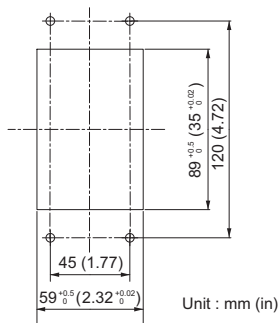

Figure 9 Panel Cut-out Dimensions (Internal/Flush-mount Installation)
1. Cut an opening in the enclosure panel for the LED Operator Option according to *Figure 9*.